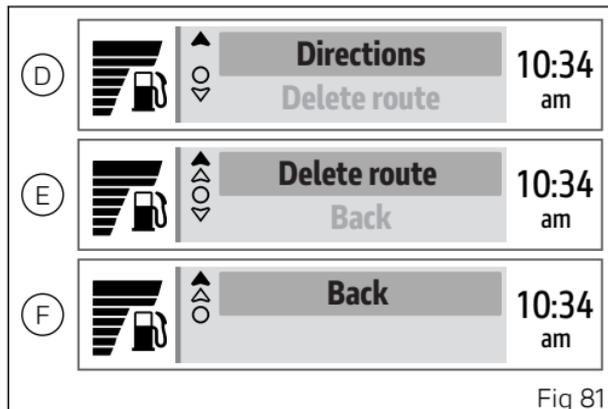

Fig 81
- Select the "Directions" item (D, Fig 81) and press ENTER (3).
- Select the "Delete route" item (E, Fig 81) and press ENTER (3).